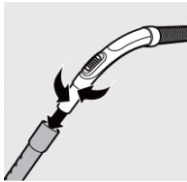

Figure 3
- To attach the tube to the hose handle, insert the narrow section into the wider section and turn it slightly (Figure 3).